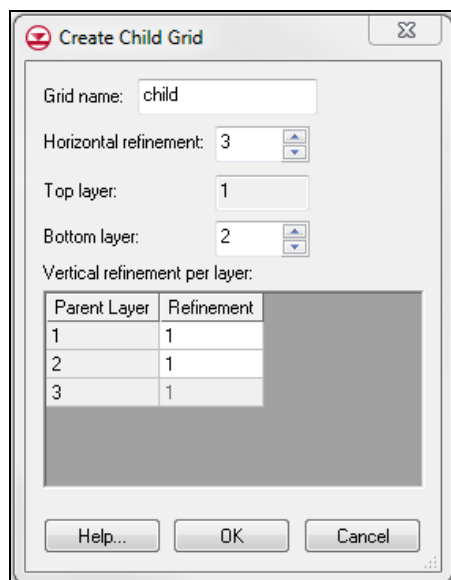

Figure 4 Create Child Grid dialog
- Right-click in the selected area and select **Create Child Grid...** to bring up the *Create Child Grid* dialog (Figure 4).